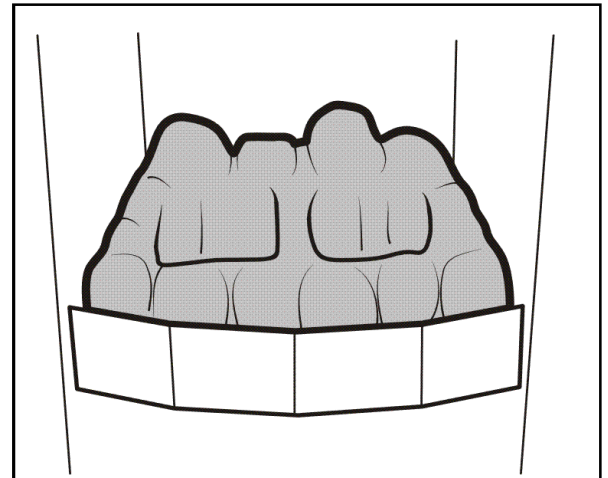

Figure 4 Base Pebble Position
1. Place the base pebble in the firebox. It should rest on the ledges at the rear sides of the burner unit. See figure 4.